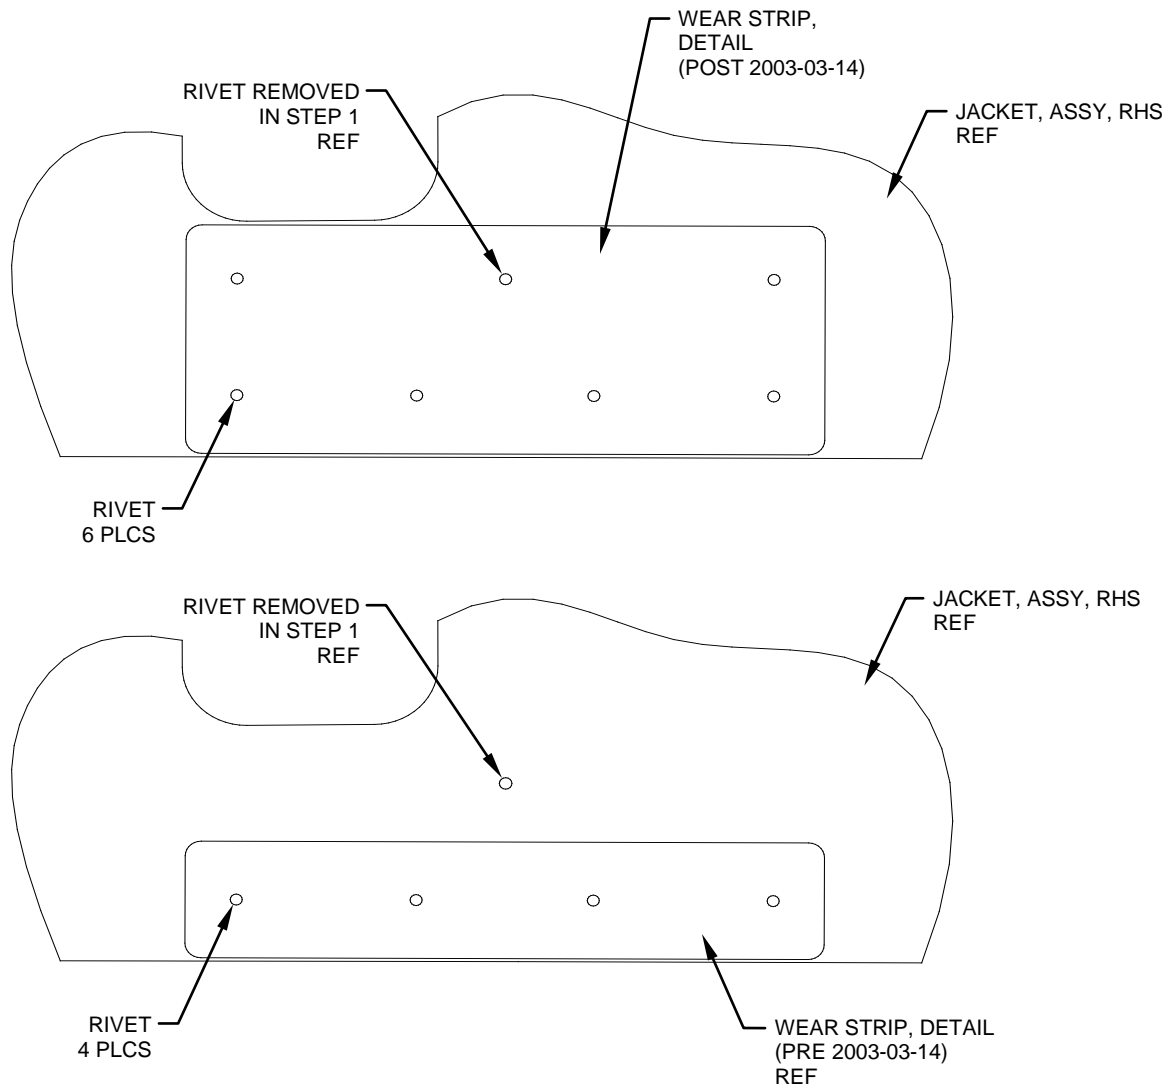

Figure 2
- Remove the rivets retaining the existing Wear Strip, Detail as shown. Remove and disregard the existing Wear Strip, Detail. Reference Figure 2.